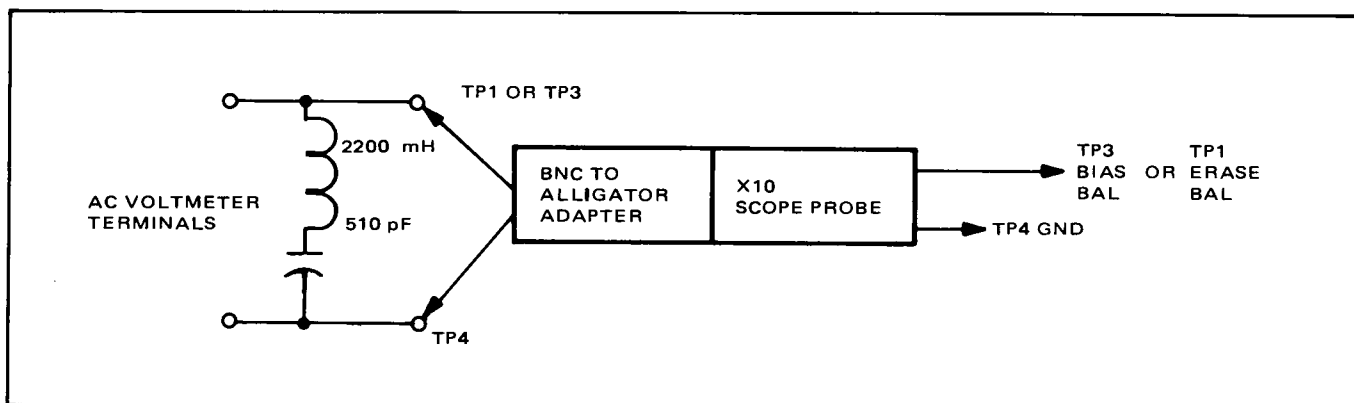

Figure 5-5. Second Harmonic Distortion Adjustment Setup
11. To adjust for minimum 2nd harmonic distortion in the bias signal, use an ac voltmeter with a X10 scope probe and a bias trap as shown in Figure 5-5.
13. To adjust for minimum 2nd harmonic distortion in the erase signal, use the setup shown in Figure 5-5 and adjust ERASE BAL control R52 for minimum.